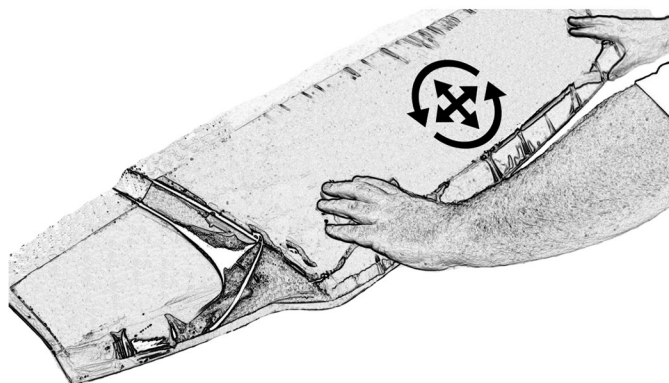

Figure 1
15. Position the kit 1/16 inch from the front edge of the hood and centered between the fenders. The part may not seem to line up along the entire length of the front edge of the hood. This is normal since stretching may be needed to relieve excess material caused by the compound curves in the surface of the hood. Rotate the kit so that it lies symmetrically as shown in figure 1.